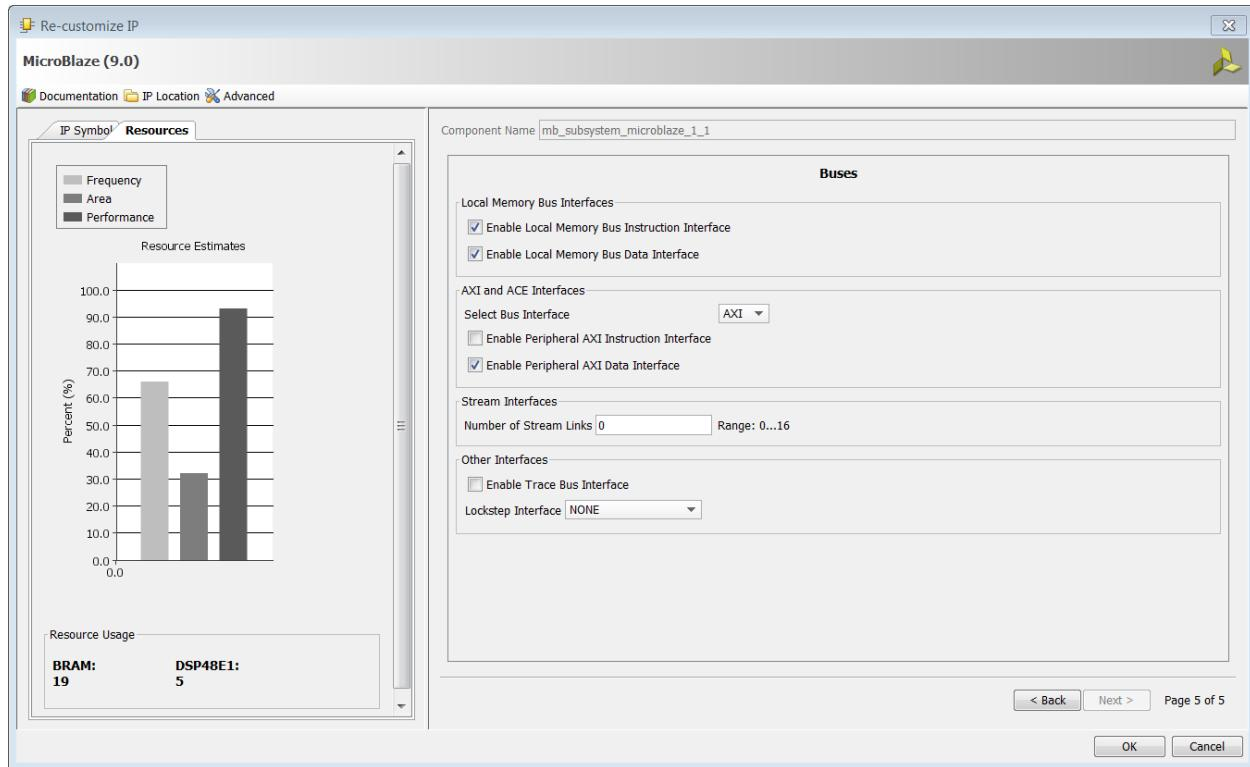

Figure 87: Re-customize IP
10. On Page 5 of the Re-customize IP dialog box, ensure that the **Enable Peripheral AXI Data Interface** option is checked, and click **OK** to re-configure the MicroBlaze processor (Figure 87).